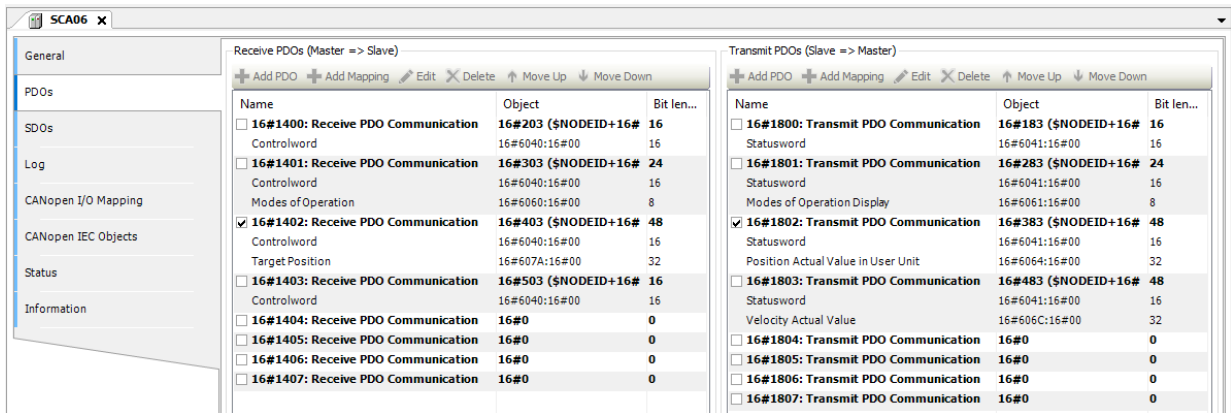

Figure 6.11: Default SCA06 settings on the CANopen SoftMotion network.
- Still in the **SCA06** object settings, on the **PDOs** tab, select only the PDOs from Figure 6.11.